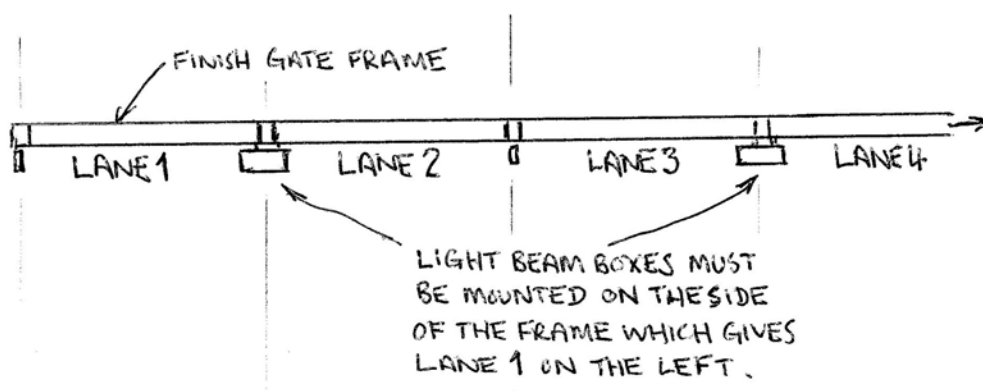

Figure 2.1 Plan View of Light Beam Detector Box.
- The boxes are usually mounted on the front side of the finish gate frame, but it depends on the direction of the lane numbering. **THE BOXES MUST ALWAYS BE MOUNTED ON THE SIDE OF THE FRAME WHICH, WHEN YOU ARE FACING THE FRAME, GIVES LANE 1 ON YOUR LEFT.** See Figure 2.1. Make sure that the end of the box marked 'TOP' is at the top.